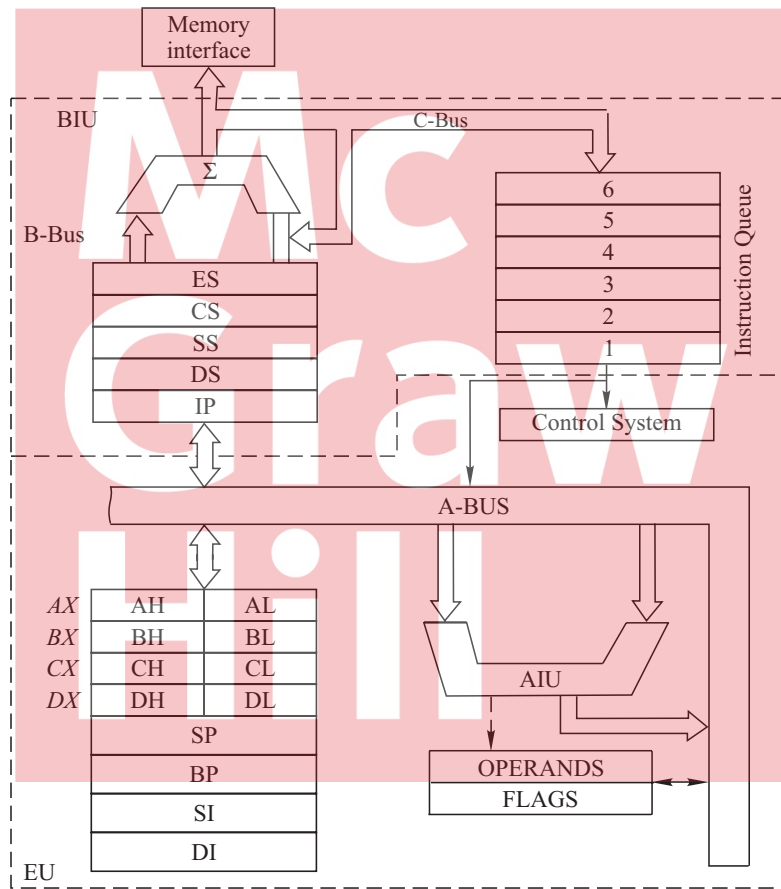

Fig. 13.21 Internal Block Diagram of Intel 8086 Microprocessor
Figure 13.21 shows internal block diagram of the 8086 microprocessor. It is divided into two units, the *bus interface unit* (BIU), and the *execution unit* (EU). Since the operation in this microprocessor is divided into two units, its speed of operation increases.